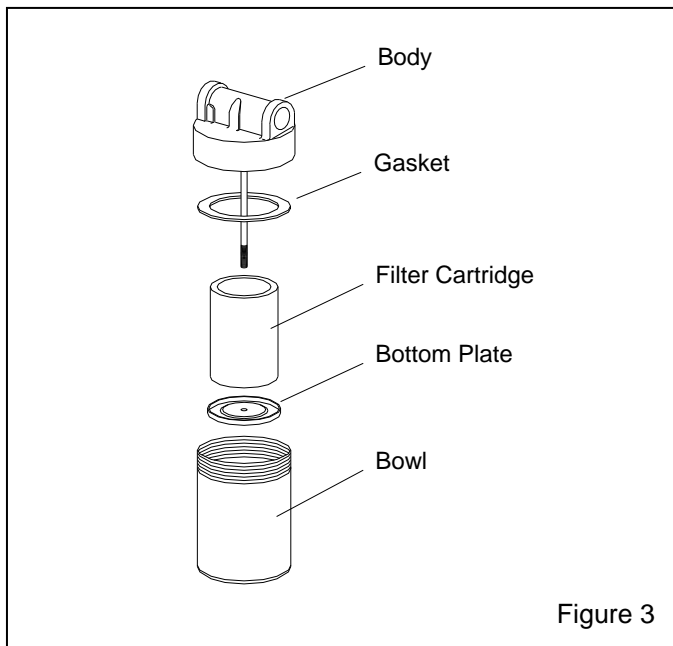

Figure 3
5.2 Outlet Filter, Ref. Figure 3